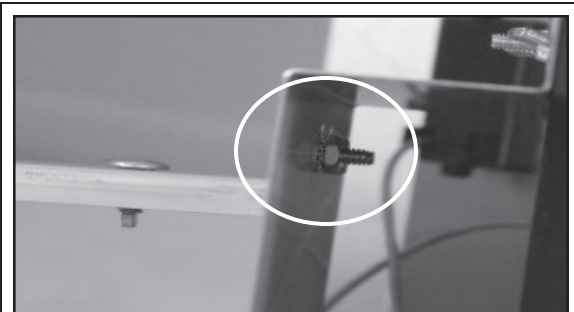

Fig. 8
2. Secure the LP tank fastener from the inside of the heat shield with (2) 10-24 Kev Nuts as shown in (Fig. 8) and tighten with 3/8" wrench.